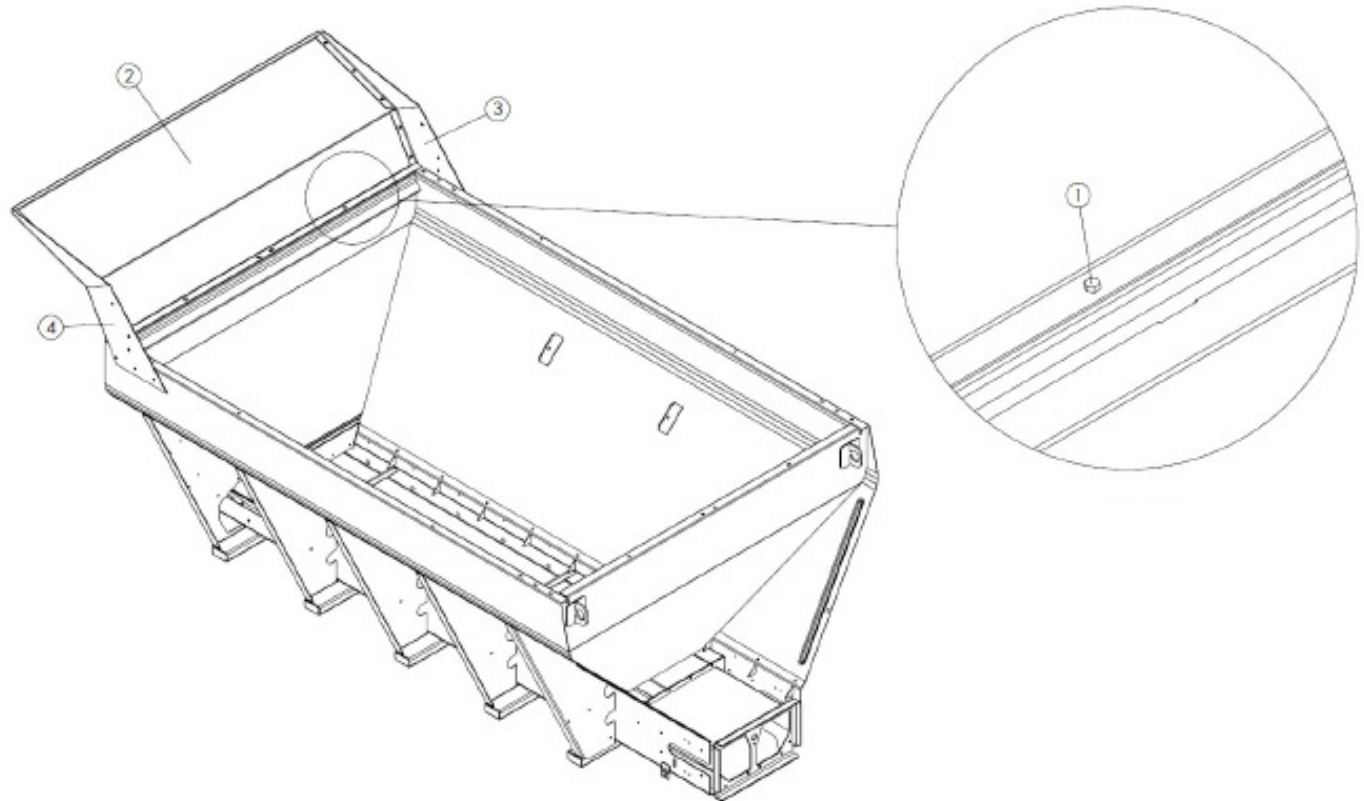

Figure 1 – Cab Shield Installation
Position ladder so that lower ladder mounts (7,8) can be attached to frame assembly and Support Weldment (7) as shown in Figure 1. Position Platform (4) and mark holes on endgate. Remove ladder and drill 9/16" holes. Attach to endgate with hardware.